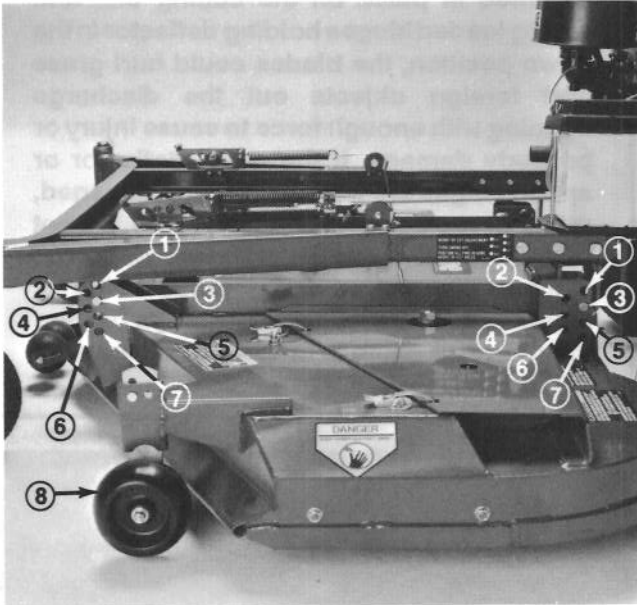

Figure 6
2. Mount cutting unit to carrier frame with four (4) clevis pins and hair pin cotters (Fig. 6).
The height-of-cut is adjustable from 1–4 inches (25–102 mm) in, 1/2 in. (13mm) increments by moving four clevis pins in different holes (Fig. 6).
With cutting deck on a level surface and height-of-cut in desired position, gage wheel is to be positioned so it is approximately 1/4–3/8 in. above the ground (Fig. 6).